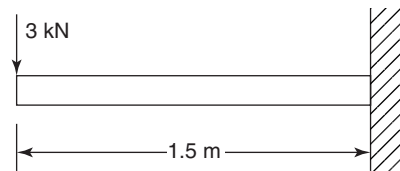

Figure 8.7
**Problem 3.** A cantilever beam, whose cross-section is a tube of external diameter 0.2 m and wall thickness of 0.02 m, is subjected to a point load, at its free end, of 3 kN, as shown in Figure 8.7. Determine the maximum bending stress in this cantilever.
The maximum bending moment, namely  $\hat{M}$ , will occur at the built-in end of the beam, i.e. on the extreme right of the beam of Figure 8.7.